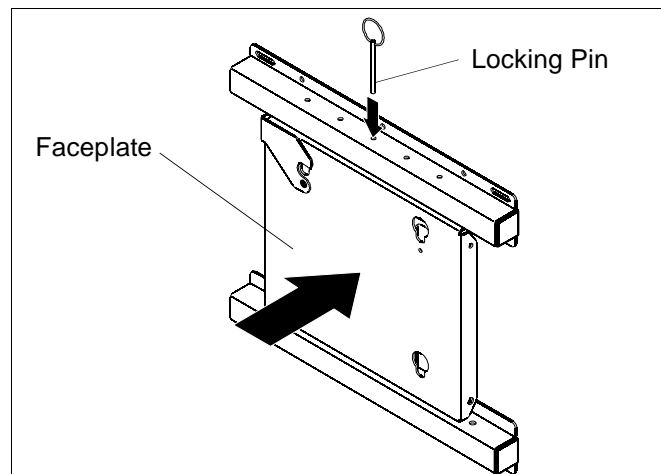

Figure 8
**NOTE:** If desired, install optional security screw and locknut provided. The display can also be locked in the retracted position by installing the optional locking pin provided. (See Figure 8)